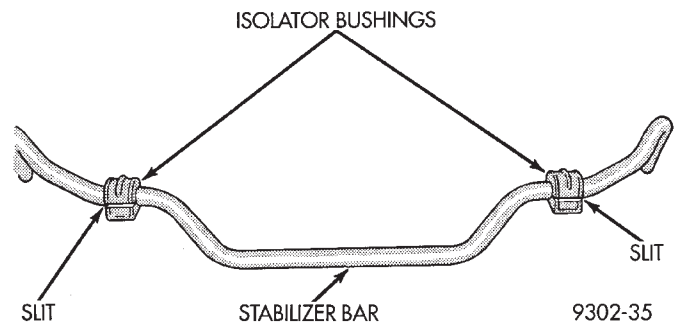

Fig. 3 Isolator Bushings Installed On Stabilizer Bar
(2) Remove the stabilizer bar isolator bushing retainers from the isolator bushings.
(3) Inspect for broken or distorted retainers and bushings. If bushing replacement is required, bushing can be removed by opening slit in bushing and removing bushing from around stabilizer bar. The stabilizer bar to cradle assembly bushings, should be positioned on stabilizer bar, so slit in bushing is positioned toward front of vehicle (Fig. 3).